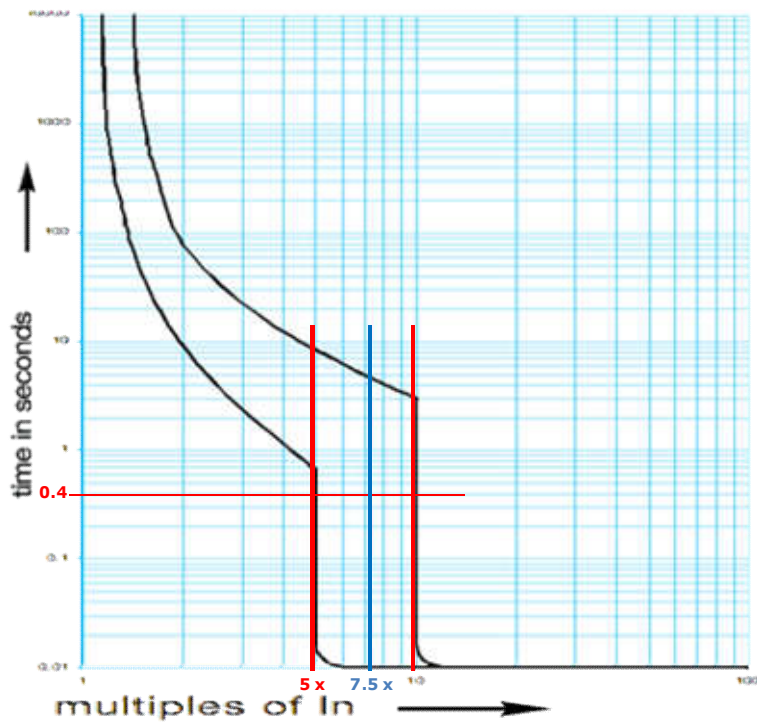

figure 4 – www.hagerbr.com.au
2. Determine from manufactures data (figure 4) the current I_a